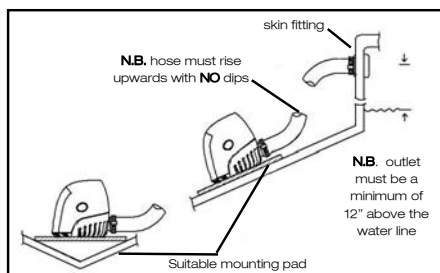

Fig. 1
- Position pump in the lowest accessible part of the bilge. On sailboats, location should be centred over keel (Figure 1).
CAUTION: Do not drill through the hull. Before drilling, ensure that the mounted pump will be correctly positioned with pump nozzle pointing towards thru-hull connector. (see figure 1).